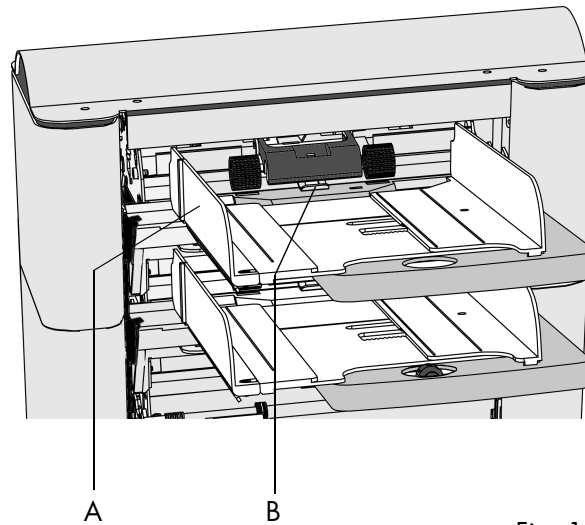

Fig. 15
- place the document feeding tray under guide B (as shown in fig. 15).
Open the left side guide A (fig. 15) by turning it downwards. The feed rollers will automatically be lifted.